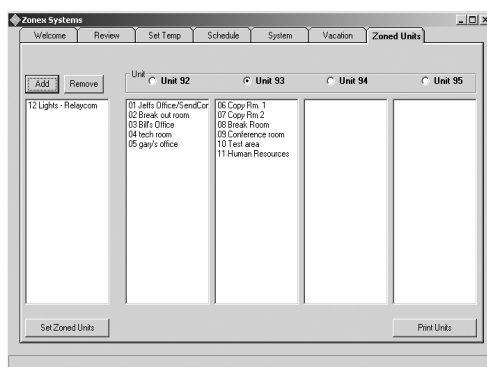

Fig. 30
9. Repeat these procedures for each **RMOD** #93, #94 and #95 when applicable (see Fig. 30).